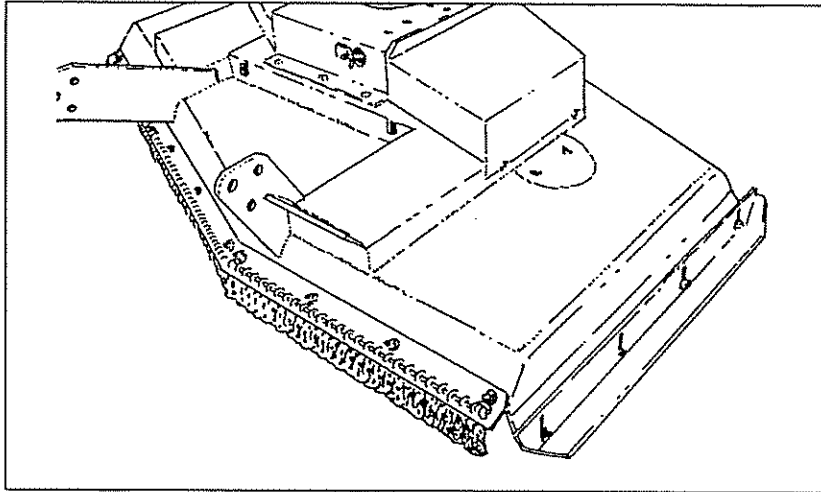

FIGURE 13
1. Attach the right and left chain guard assemblies to the mower with (10) - 1/2" x 1-1/4" bolts, (10) - 1/2" flatwashers, and (10) - 1/2" locknuts as shown in **figure 13**.